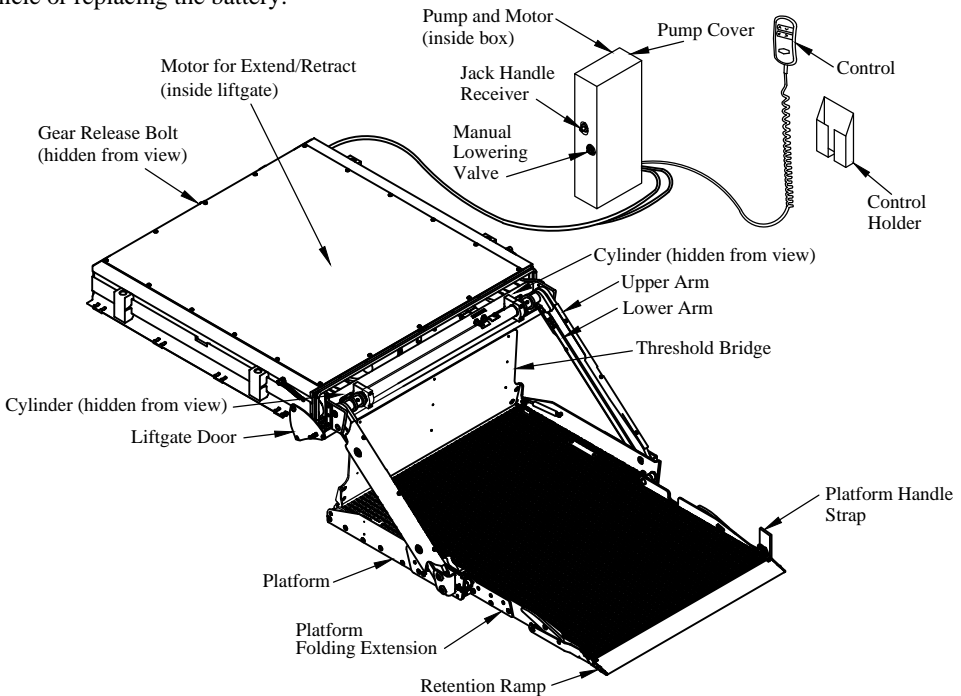

Figure 1: Parts identification.
- Step 3.** Verify that the manual lowering valve is closed by rotating it clockwise (Figure 1).
- Step 4.** Rotate the gear release bolt a quarter (1/4) turn counterclockwise (Figure 1). This will disengage the motor, allowing the platform to slide in and out of the liftgate freely.